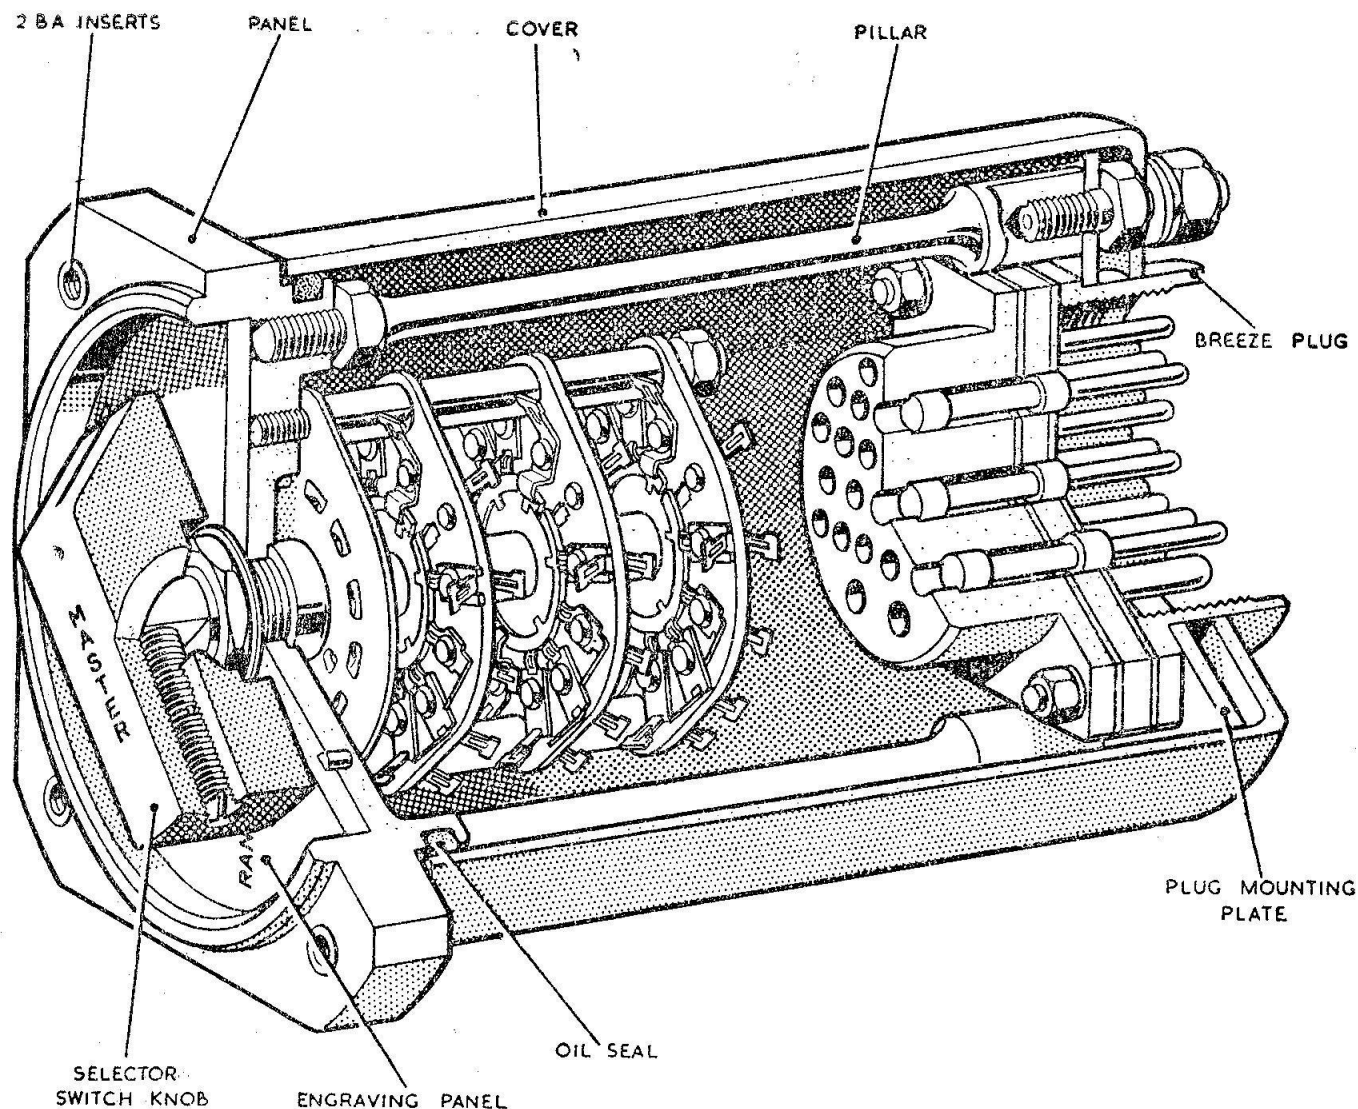

Fig. 1. Sectional view, control panel, Type SNP/3
4. A sectioned view of the switch is given in Fig. 1. The front panel carries four 2BA inserts to allow mounting on a main panel, and also an engraved panel marked with the switch positions and the minimum control range of the synchroniser equipment.